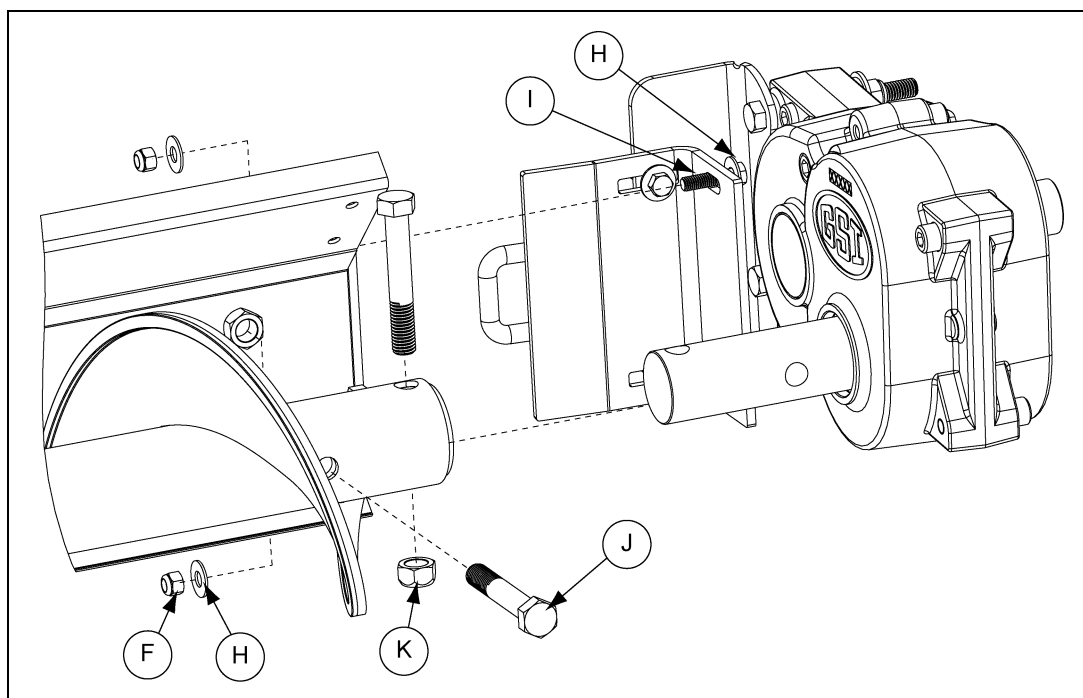

Figure 4AU
3. Attach the input shaft of the gear driven reduction drive to the final sweep flight using two (2) 5/8" x 4" grade 8 bolts (J) and stover nuts (K). Attach the mounting bracket to the final back shield with two (2) 3/8" x 1-1/2" grade 8 bolts (I), two (2) flat washers (H) and two (2) nylock nuts (F). (See Figure 4AU.)